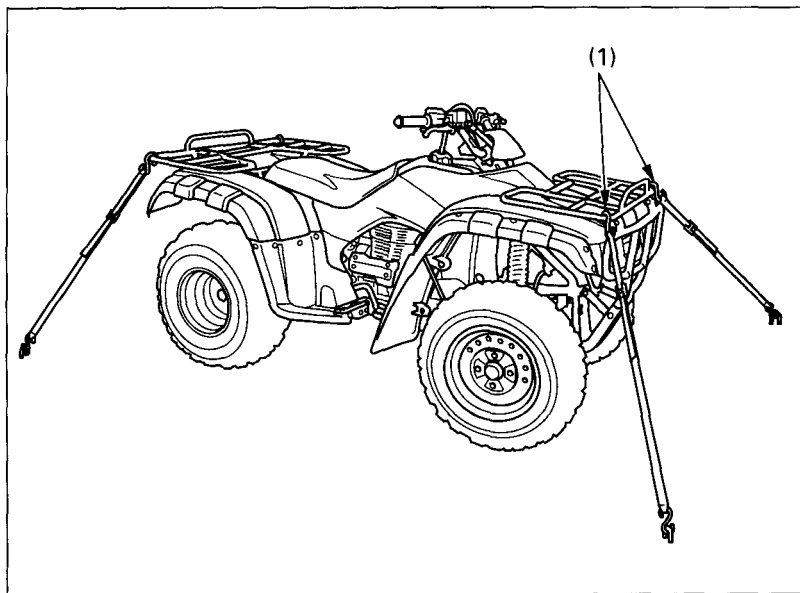

Fig. 4-41 Points to secure FOURTRAX with tie downs
3. Secure the vehicle with "tie downs" in the areas shown (Fig. 4-41). Suitable "tie downs" are available from your Honda dealer. Ordinary rope is not recommended because it can stretch under load.